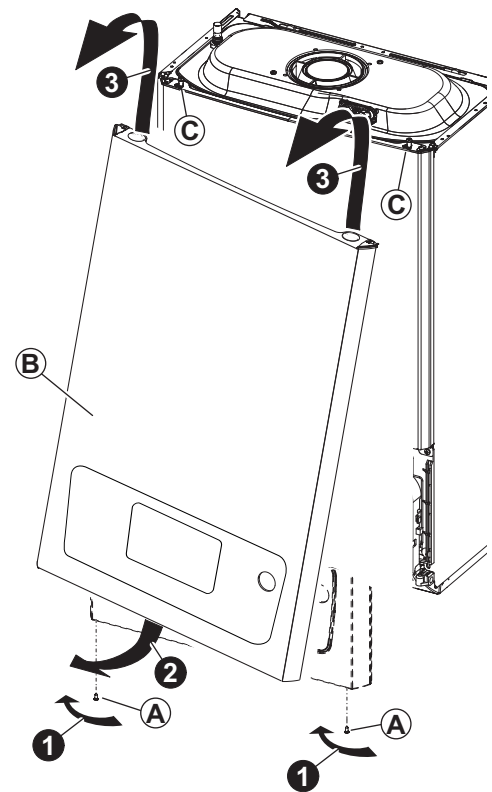

Fig. 7.1
## 7.2 CASING REMOVAL - Figs. 7.1, 7.2, 7.3 and 7.4
### Case front panel - Fig. 7.1
10. Refit the case front panel in position over the top pins and push it back against the side panels, then press around the button/display area to snap the cover to the control panel and secure in position with the two screws (Fig. 7.1).